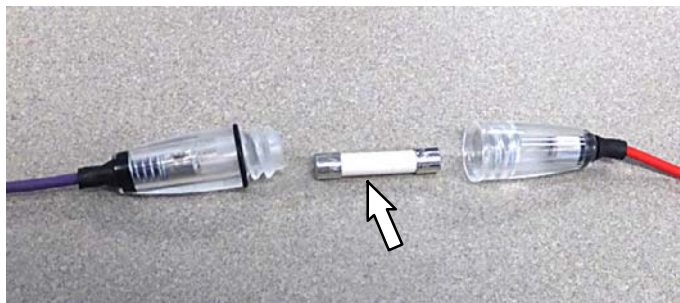

FIG. 30
31. Reinstall fuse into telemetry harness. (FIG. 30)